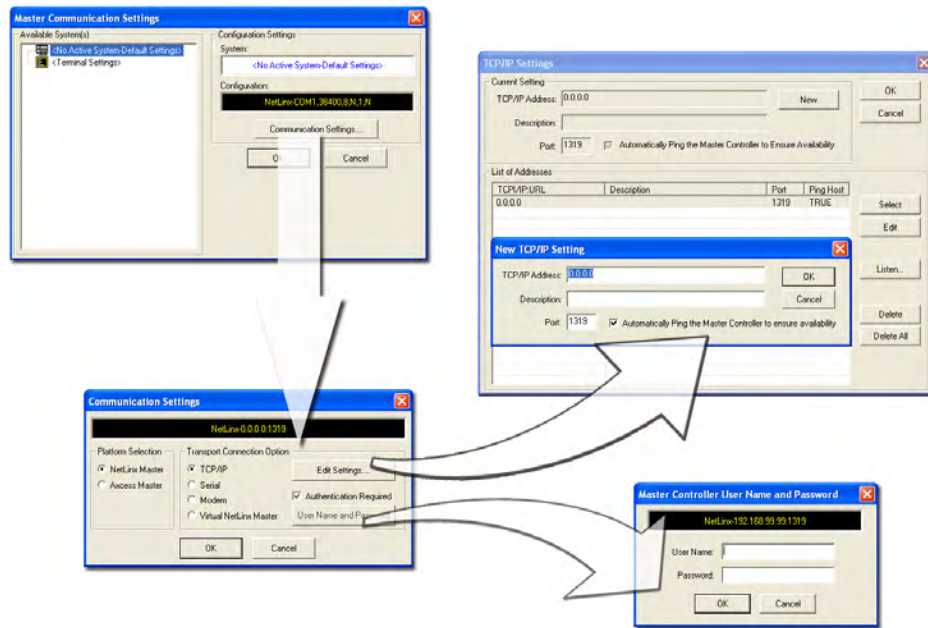

FIG. 34 Assigning Master Communication Settings and TCP/IP Settings
3. Select **Settings > Master Communication Settings** from the Main menu to open the Master Communication Settings dialog (FIG. 34).
7. Click the **Edit Settings** button (*on the Communications Settings dialog*) to open the TCP/IP Settings dialog (FIG. 34). This dialog contains a series of previously entered IP Address/URLs and their associated names, all of which are stored within Studio and are user-editable.